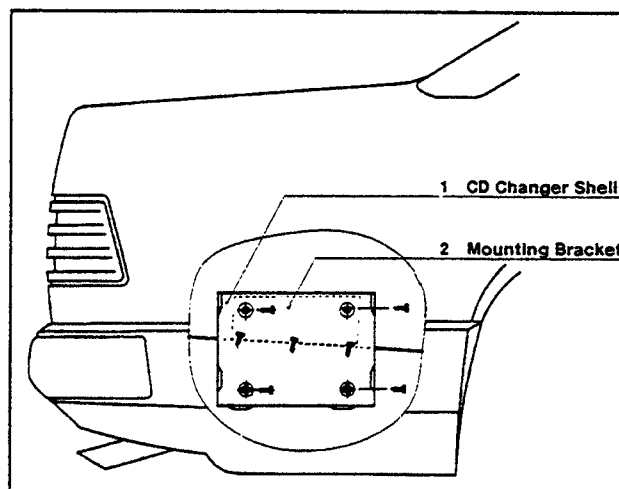

Figure 1
3. Fasten the mounting bracket (2) to the CD changer shell (1) using two 5 mm bolts (Figure 1).
7. Paint the holes with zinc paint and fasten the CD changer shell (1) and mounting bracket (2) assembly using the 6.3x25 mm sheet metal screws and spacers. The spacers should be placed between the mounting assembly and the tire well (Figure 1).